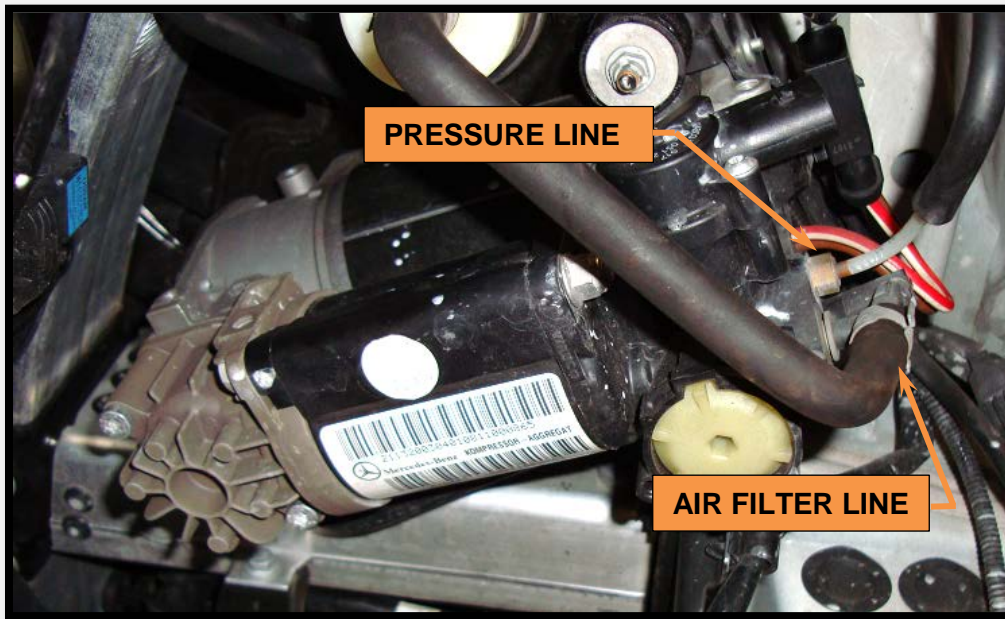

Figure 3.0
3.0 Unscrew pressure line connection and air filter line from the compressor unit. (Figure 3.0)